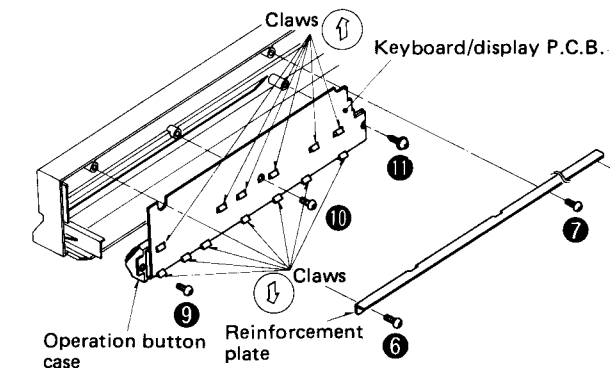

Fig. 3
2. Insert the chassis between front panel and keyboard/display P.C.B., then lift the front panel top to fit the front panel on chassis. (Fig. 3) Take care not to damage the disc holder.